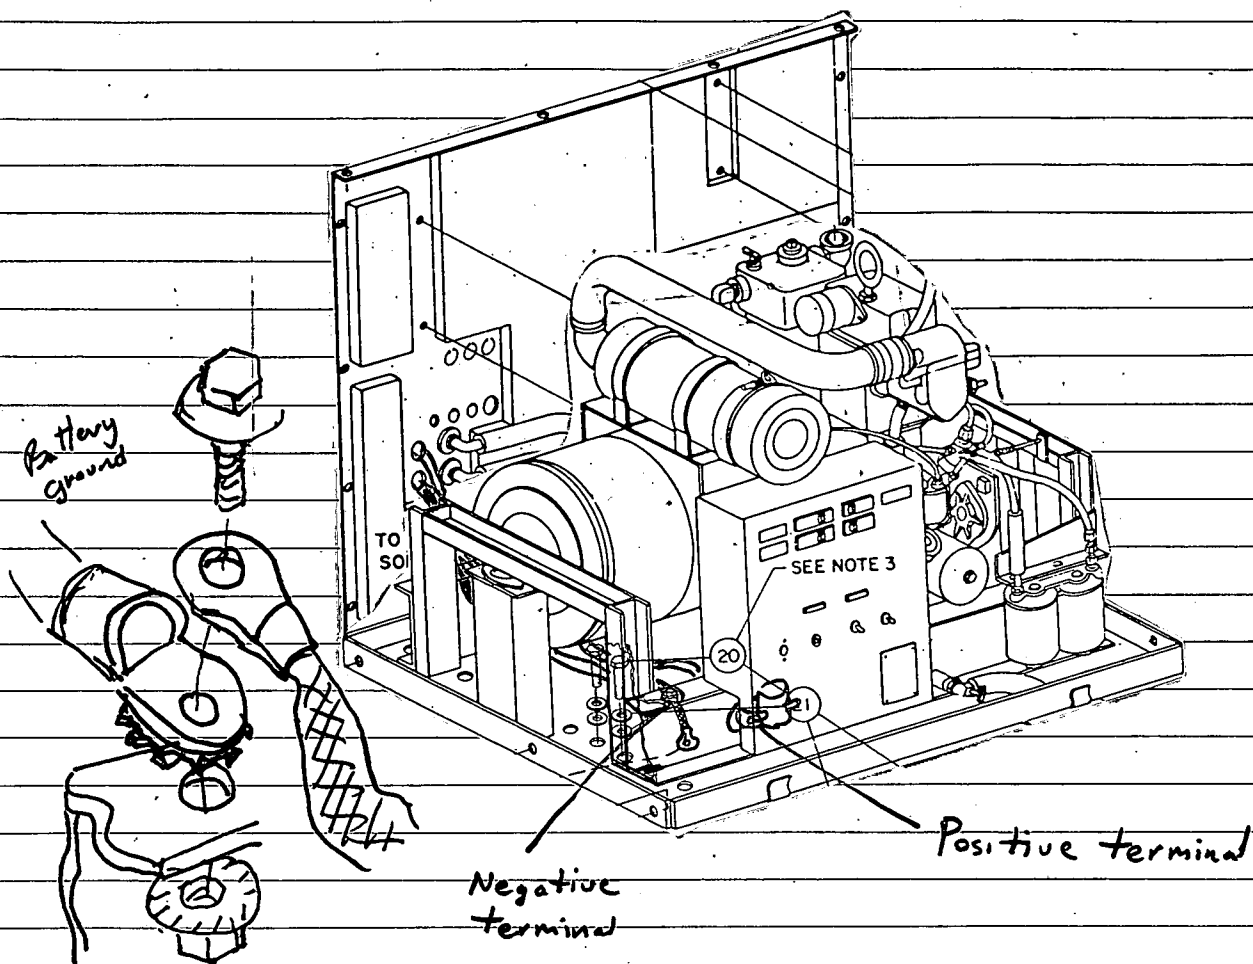

Figure 15
Route battery cables through 1-1/8 inch O.D. holes ~~(or knock-outs)~~ in compartment rear wall as shown in Figure 15. Route cables through access holes prior to installing any battery terminal connectors. ~~Water-tight 3/4 inch metal strain relief connectors must be used on each cable going through compartment access holes. Use suitable sleeving or grommets at entry point to existing truck battery compartment.~~ as they will be too large to go thru the which
2. Connect the negative battery cable, ~~generator set ground strap and housing to truck frame electrical bonding strap to the same location on the side of the compartment (Engine end)~~ as shown in the assembly sequence in Figure 15. Assemble mounting hardware and all three cable terminals as shown in Figure , detail A. Mounting hardware is supplied in accessory package. Opposite end of 16 inch truck electrical bonding strap must be attached to a convenient bolt on the side of the truck frame rail. If no existing bolt or bolt hole is